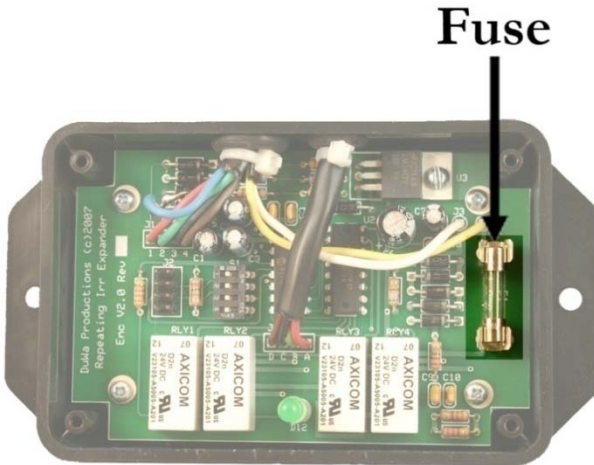

Figure 3 – Fuse Location
3. Remove the old fuse and replace with a fuse of identical rating (1 amp, 5mm x 20mm). See Figure 3 below for the fuse location.